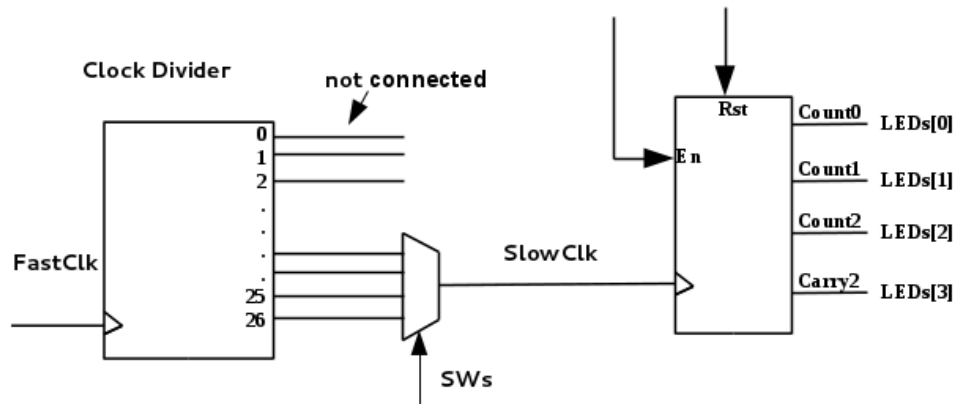

Figure 9: Top-Level Diagram
- (b) Create a source file called `'top_level.v'` and use the code snippet below to describe the circuit in Figure 9.
- (c) Create a file called `'top_level.xdc'` and save it in your lab9 directory. Type the XDC starter code shown below. Unfortunately, portions of the XDC are missing. Using the XDCs from the previous labs and Figure 9 as a guide, fix this XDC. You may also find the ZYBO master XDC